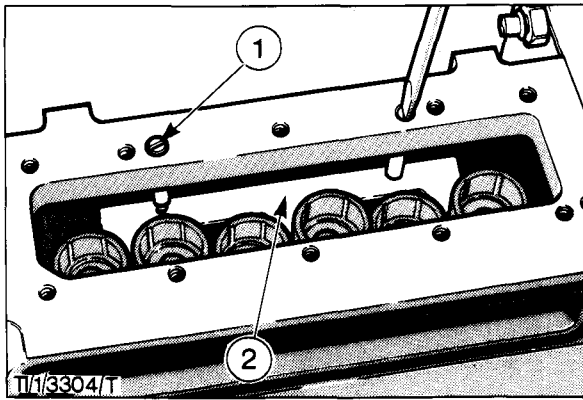

Fig. 30 - Removing the 'E' Plate (Dover)
19. **Dover Pumps:** On these pumps the tappets are retained by an 'E' shaped plate which fits between them. Remove the two long grubscrews inserted through the top face of the cambox and lift out the plate (Fig. 30).